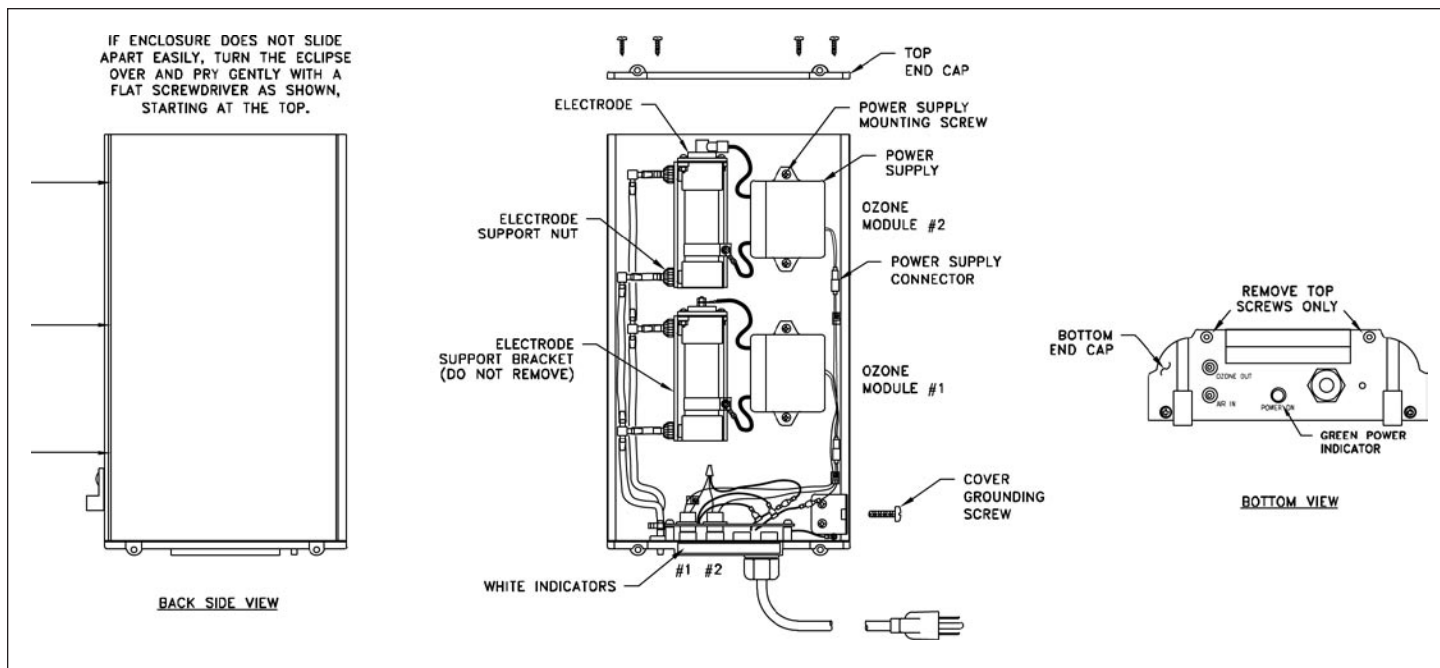

Figure 4 Component Locations (Eclipse-2 Shown)
4. The base of the Eclipse™ has two hose connections. Connect the 3/16" end of the ozone supply tubing to the port marked "OZONE OUT" (see Bottom View - Figure 4).
Refer to Figure 4.
### 4C Generator Servicing - Refer to Figure 4
**NOTE:** If the two halves do not slide apart easily, turn the Eclipse™ over and use a screwdriver to pry the cover off as shown in Figure 4.